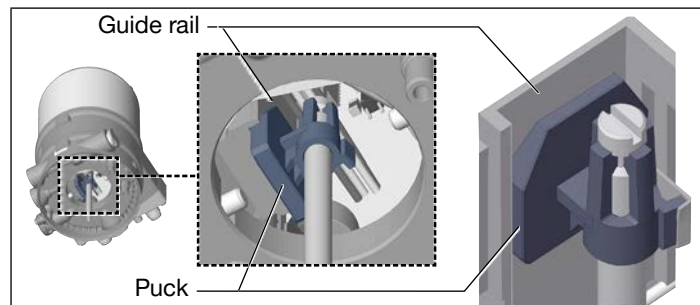

Fig. 9: Aligning the puck
2. Align the puck of the actuator with the guide rail of type 8692/8693 (see "Fig. 9")